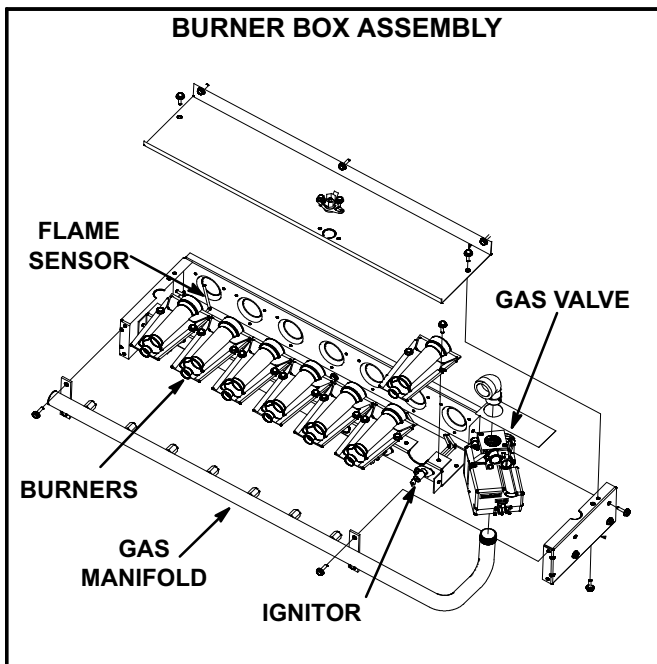

FIGURE 26
- 4- Remove two screws securing burners to burner support and lift the burners from the orifices. See figure 26. Clean as necessary.